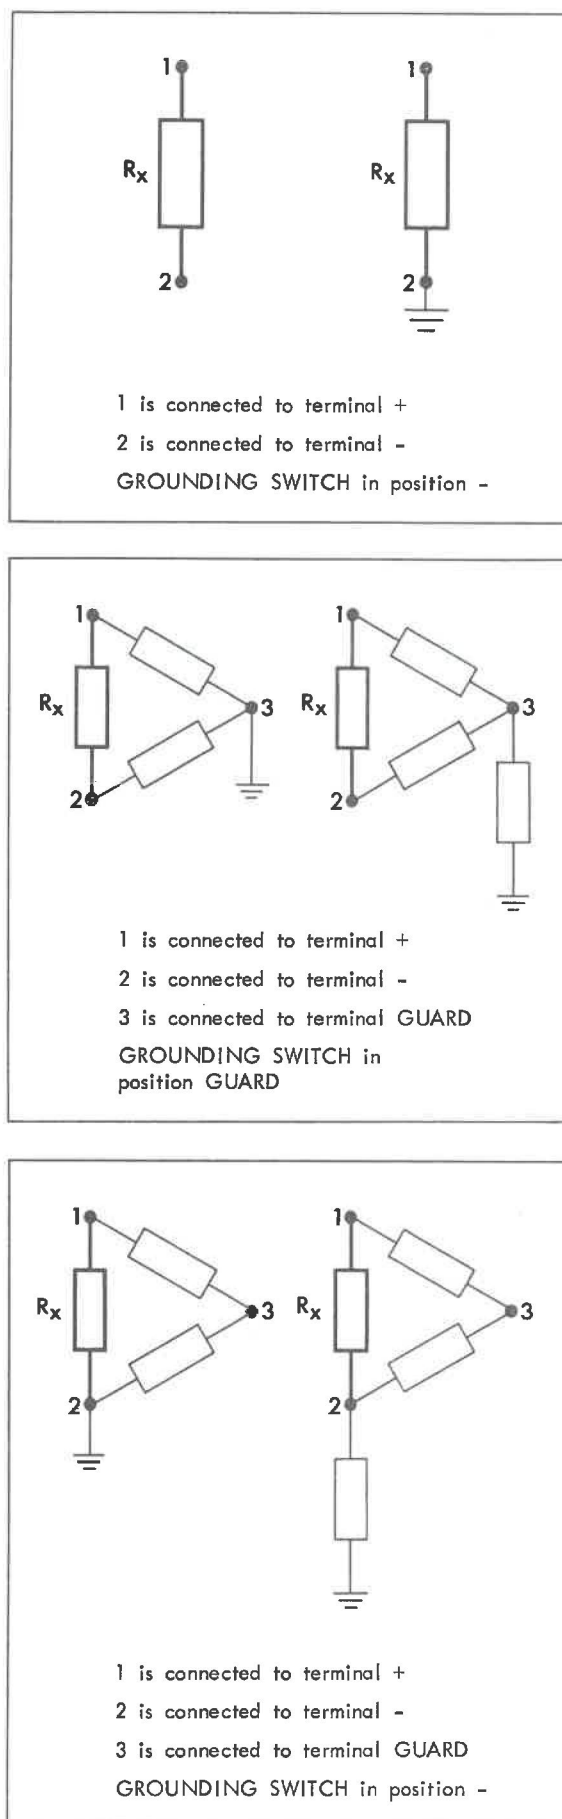

Fig.9. How to connect the Unknown
The GROUNDING SWITCH (7) permits different types of grounding as detailed in SECTION E, Fig.9.
The black terminal ( $R_X^-$ ) is negative, the red terminal ( $R_X^+$ ) is positive, and the third terminal (GUARD) is a guard terminal. (See SECTION E, Fig.9, for further details.)
- 2) Connect the unknown to the terminals + and -, and the guard terminal, if any, of the unknown to the terminal GUARD as shown in Fig.9. (The function selector in position CALIBRATE.)
- 3) Set the GROUNDING SWITCH as shown in Fig.9.
2) Connect the unknown to the terminals + and -, and the guard terminal, if any, of the unknown to the terminal GUARD, as shown in Fig 9. (The function selector in position CALIBRATE.)
3) Set the GROUNDING SWITCH as shown in Fig.9.